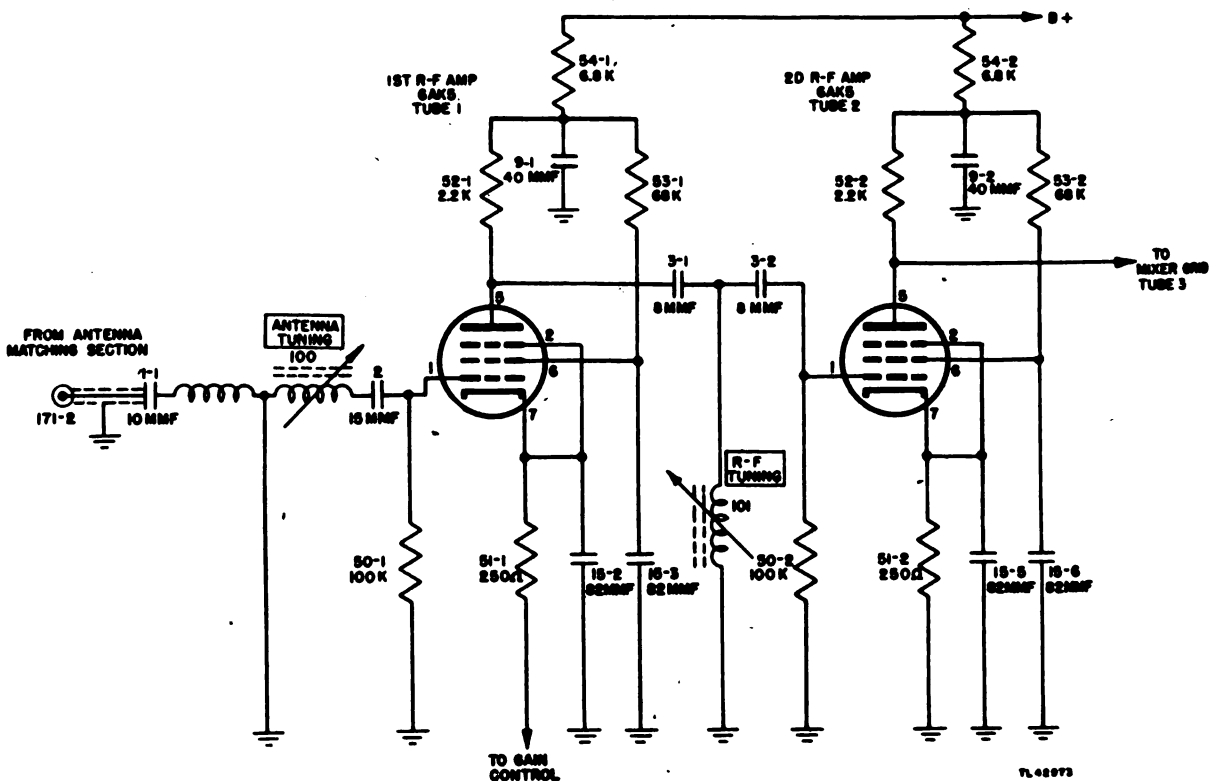

Figure 26. Receiver system, r-f amplifier circuit.
**a. Input Circuit.** The r-f signal from the antenna is coupled to the grid of the first r-f amplifier, tube 1, through the antenna-matching section, connector 171-2, the antenna coupling capacitor 1-1, and antenna tuning transformer 100 (fig. 26). The coaxial line from the antenna-matching section is soldered directly to capacitor 1-1. The input impedance of the line is approximately 50 ohms. The primary of antenna tuning transformer 100 consists of a half turn of silver wire placed around the secondary of the transformer. One end of the primary is grounded; the other end is in series with capacitor 1-1, forming a series resonant circuit broadly tuned to the middle of the 157-167-mc band. The secondary of antenna tuning transformer 100 is coupled through capacitor 2 and grid leak resistor 50-1 to the first r-f amplifier. This coil is permeability tuned by means of ANT. control on the front panel. The cathode of the first r-f amplifier is connected to the gain control (par. 25c) through resistor 51-1.